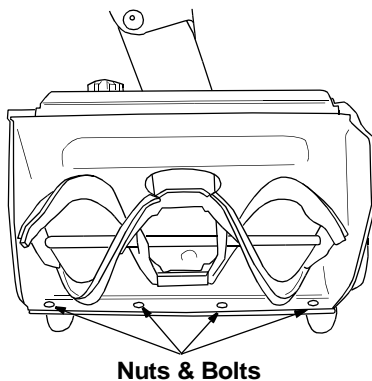

Figure 13
- To adjust, tip the snow thrower back so that it rests on the handle. Loosen the lock nuts and bolts which secure the shave plate to the housing. See Figure 13. Move the shave plate to desired position and retighten the nuts and bolts. Make certain all nuts and bolts are tightened securely.
The shave plate is subject to wear. It should be checked periodically. There are two wearing edges and the shave plate can be reversed. See Figure 13.